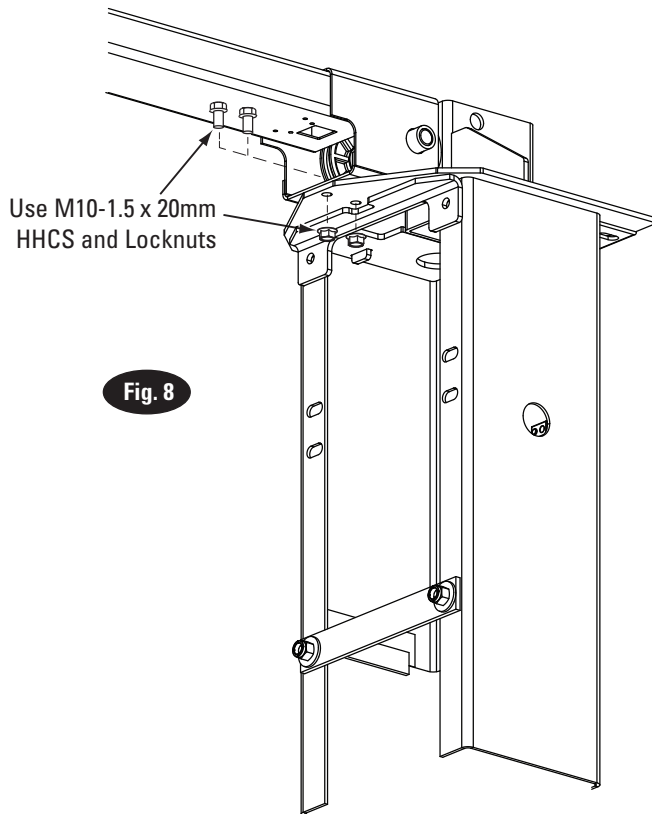

Fig. 8
9. Overhead Installation: Install overhead assembly to Mounting Bracket with (4) M10-1.5 x 20mm HHCS, and (4) M10-1.5 Flanged Locknut on both columns, Fig. 8. Tighten bolts at center of overhead assembly.